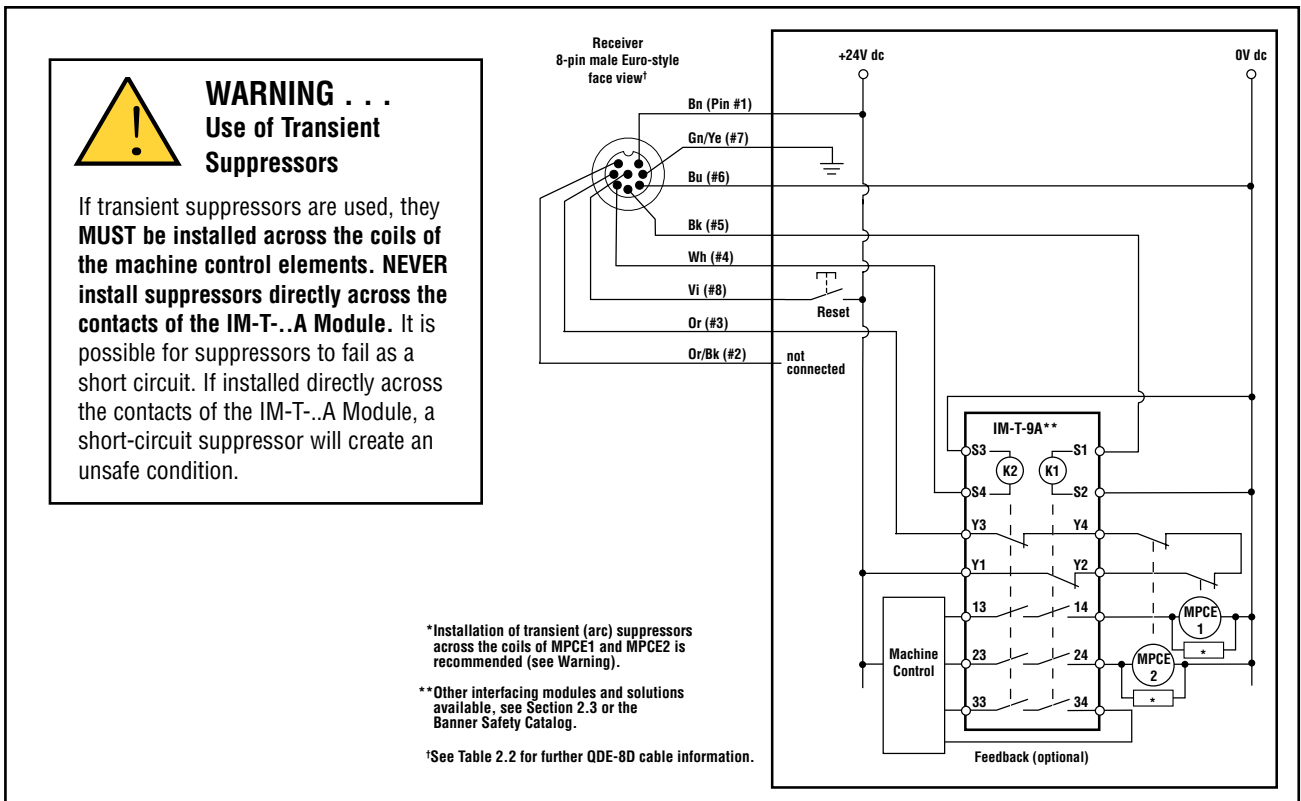

Figure 3-20. Generic hookup – interface module (1-Channel EDM, manual reset)
- **One-Channel Monitoring** is a series connection of closed monitor contacts that are forced-guided (mechanically linked) from each device controlled by the EZ-SCREEN. The monitoring contacts should open within 200 milliseconds of the OSSD outputs turning ON (a Clear condition) and should close within 200 milliseconds of the OSSD outputs turning OFF (a Blocked condition) or a Lockout will occur (see Diagnostics, Section 5.1). Refer to Figure 3-20 for One-Channel EDM hookup. Connect the monitor contacts between +24V dc and EDM1 (pin 3). Leave EDM2 (pin 2) open (no connection). Set the configuration DIP switch to E1, per Section 4.2.